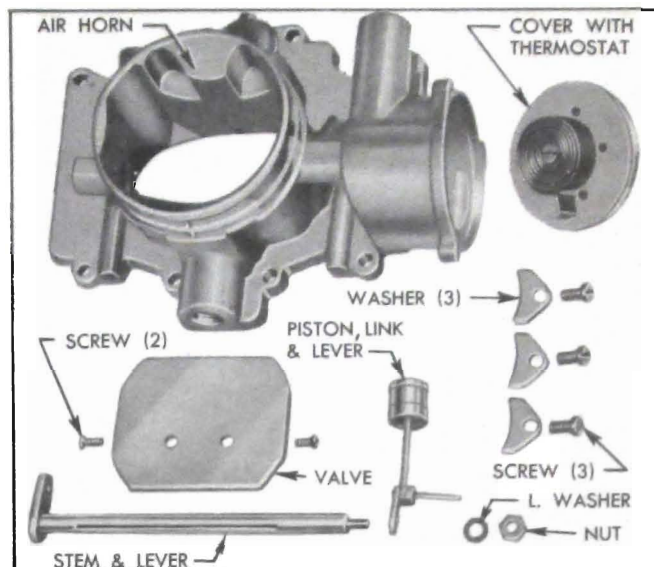

Figure 3-67—Stromberg Choke Control Parts
6. Remove thermostat cover. Use Wrench T-25047 to remove nut from choke stem, then remove lockwashers. See figure 3-67.
13. Install both idle tubes and the power bypass jet with a *new* gasket. See figure 3-67.